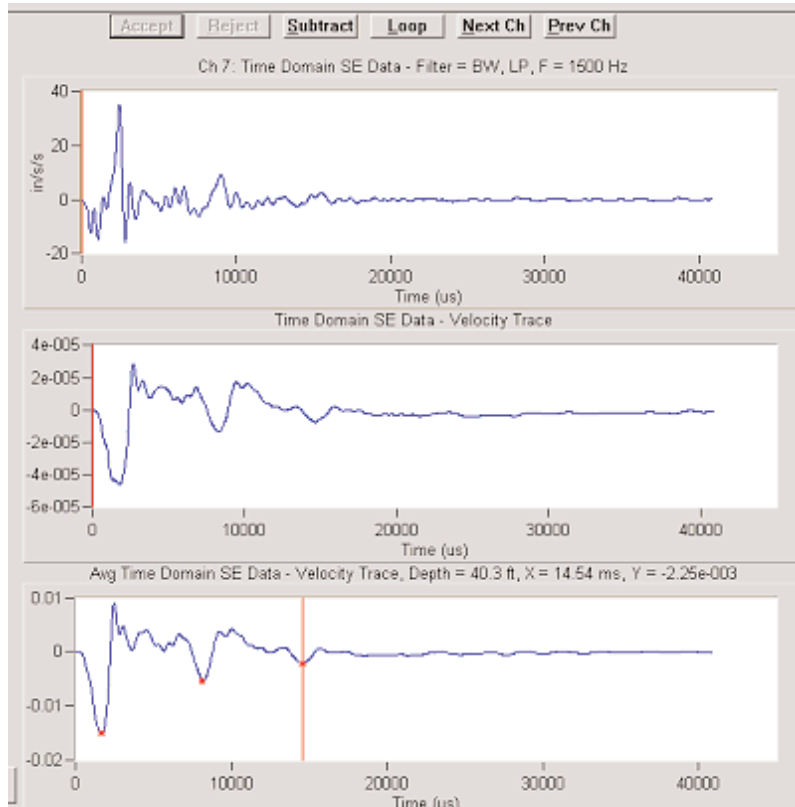

Figure 5: Picked SE data, note a shaft depth of 40.3 ft.
- At this point, the data can be analyzed. SE data is analyzed by picking the troughs in the wave form. This is done by placing the mouse cursor on the lowest point of the trough and left clicking the mouse. This should be repeated on each trough, moving from the left to the right. If the troughs are picked out of order, the depth calculation will be incorrect, see Figure 5.